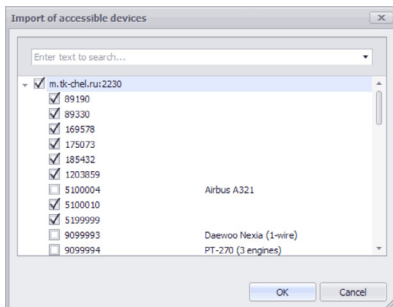

Fig. 37. Import of accessible devices.
- The program will download the list of devices available for the user from the server, and will prompt to select gauges from that list (**Fig. 37**). Select gauges and click “OK”. The selected gauges will be added to the Device selector.